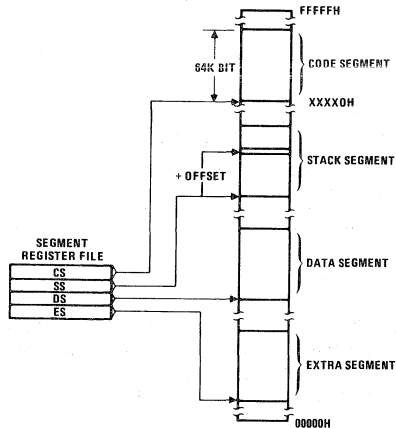

FIGURE 1. HS-80C86RH MEMORY ORGANIZATION
The processor provides a 20-bit address to memory, which locates the byte being referenced. The memory is organized as a linear array of up to 1 million bytes, addressed as 00000(H) to FFFFF(H). The memory is logically divided into code, data, extra and stack segments of up to 64K bytes each, with each segment falling on 16-byte boundaries. (See Figure 1).